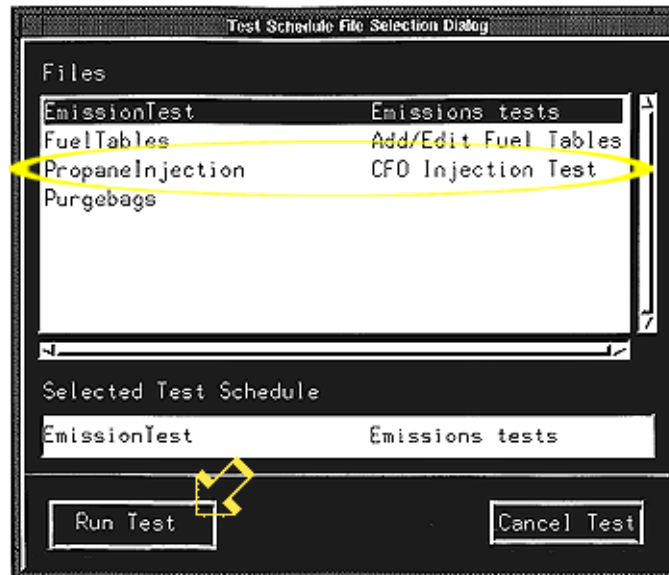

Figure 6
- 104 From the list of files on the CDTCS computer “Test Schedule File Selection Dialog” screen, highlight “Propane Injection.” See the Circle in Figure 6. Click on “Run Test.” See the arrow in Figure 6.